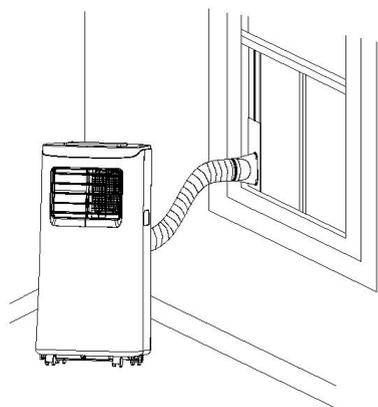
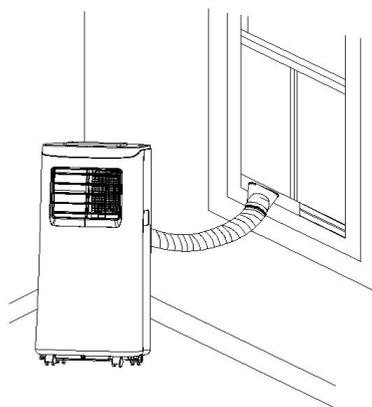

Fig. 5
Fig. 6
- 2) Elongate the exhaust pipe and snap the flat end of the exhaust pipe joints into the hole of the window sealing plate assembly (as shown in Fig. 5 and Fig. 6).